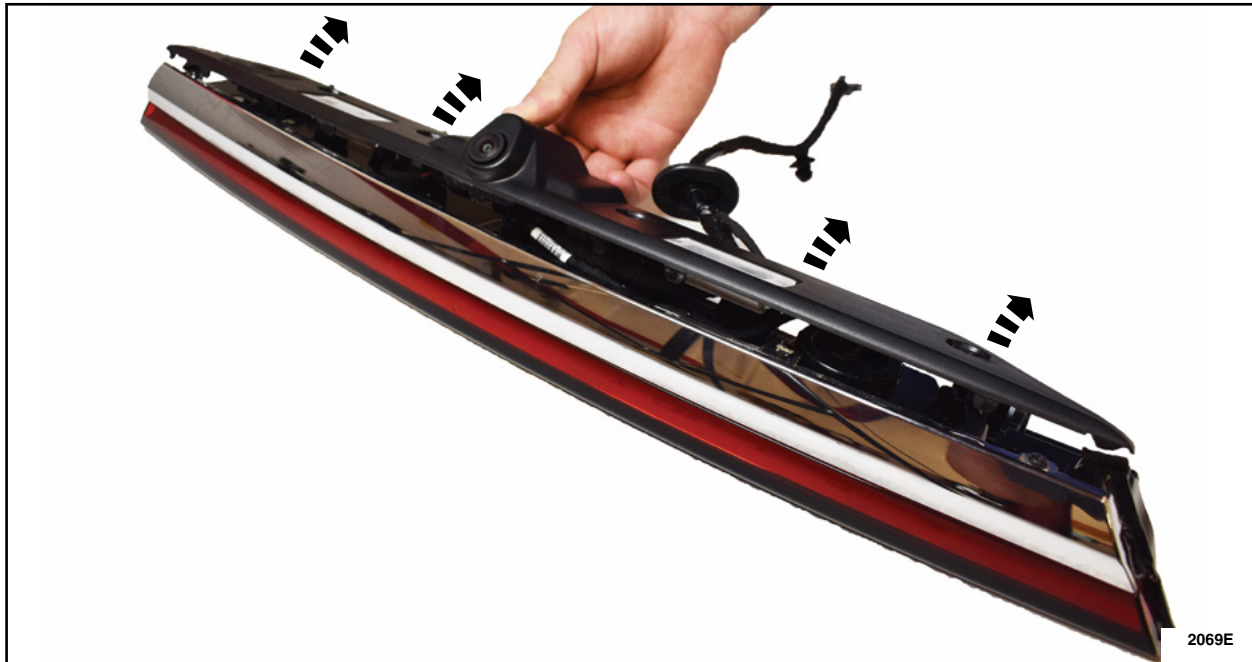

FIGURE 10
5. Separate the liftgate moulding closeout panel (by lifting straight up) and rotate the panel upside. See Figures 10 and 13.